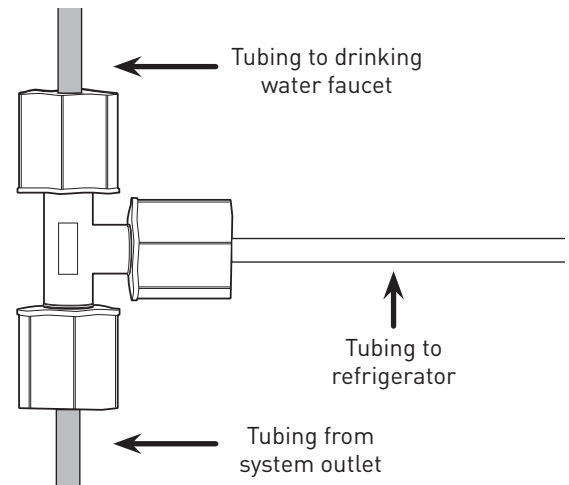

Figure 15
- E. Locate blue tubing leading to your drinking water faucet. Cut and insert the 3/8-inch x 3/8-inch x 3/8-inch (9.5 x 9.5 x 9.5 mm) compression or quick-connect tee into the blue tubing (Figure 15). Consult manufacturer's guidelines before installing the tee connection.